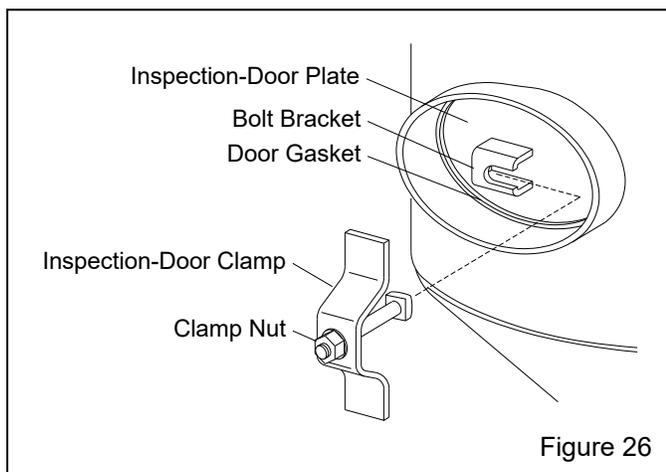

Figure 26
1. Loosen the inspection-door clamp nut enough to slide the clamp bolt from behind the bolt bracket. Then remove the clamp, bolt, and nut, as an assembly, as shown in Figure 26.